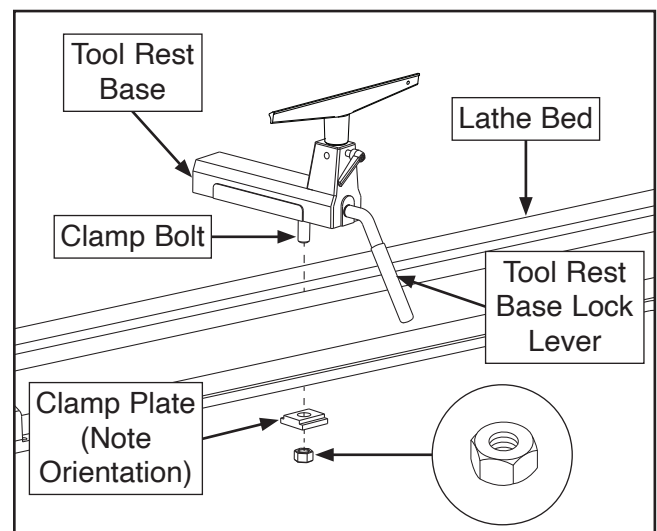

Figure 11. Mounting tool rest base.
4. Remove hex nut and clamp plate from tool rest base (see **Figure 11**).
5. Place tool rest base on lathe bed between headstock and tailstock with clamp bolt inserted between bed ways (see **Figure 11**). Tool rest base lock lever must point toward front of lathe (same side as power switch).
6. Install clamp plate and hex nut removed in **Step 4** on clamp bolt and hand-tighten (see **Figure 11**). Clamp plate must be aligned with lathe bed to fit together tightly.
7. Rotate tool rest base lock lever until it feels tight to secure tool rest base on lathe bed (see **Figure 11** on **Page 17**).